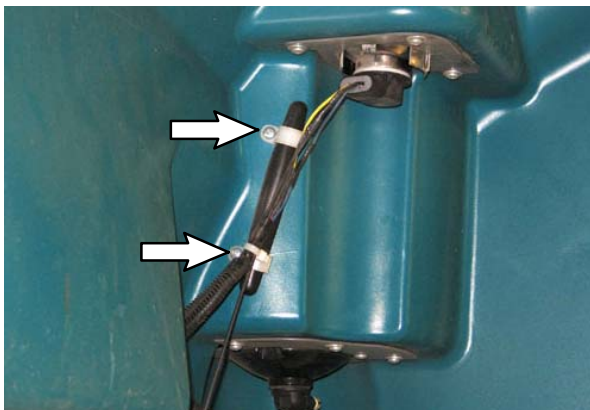
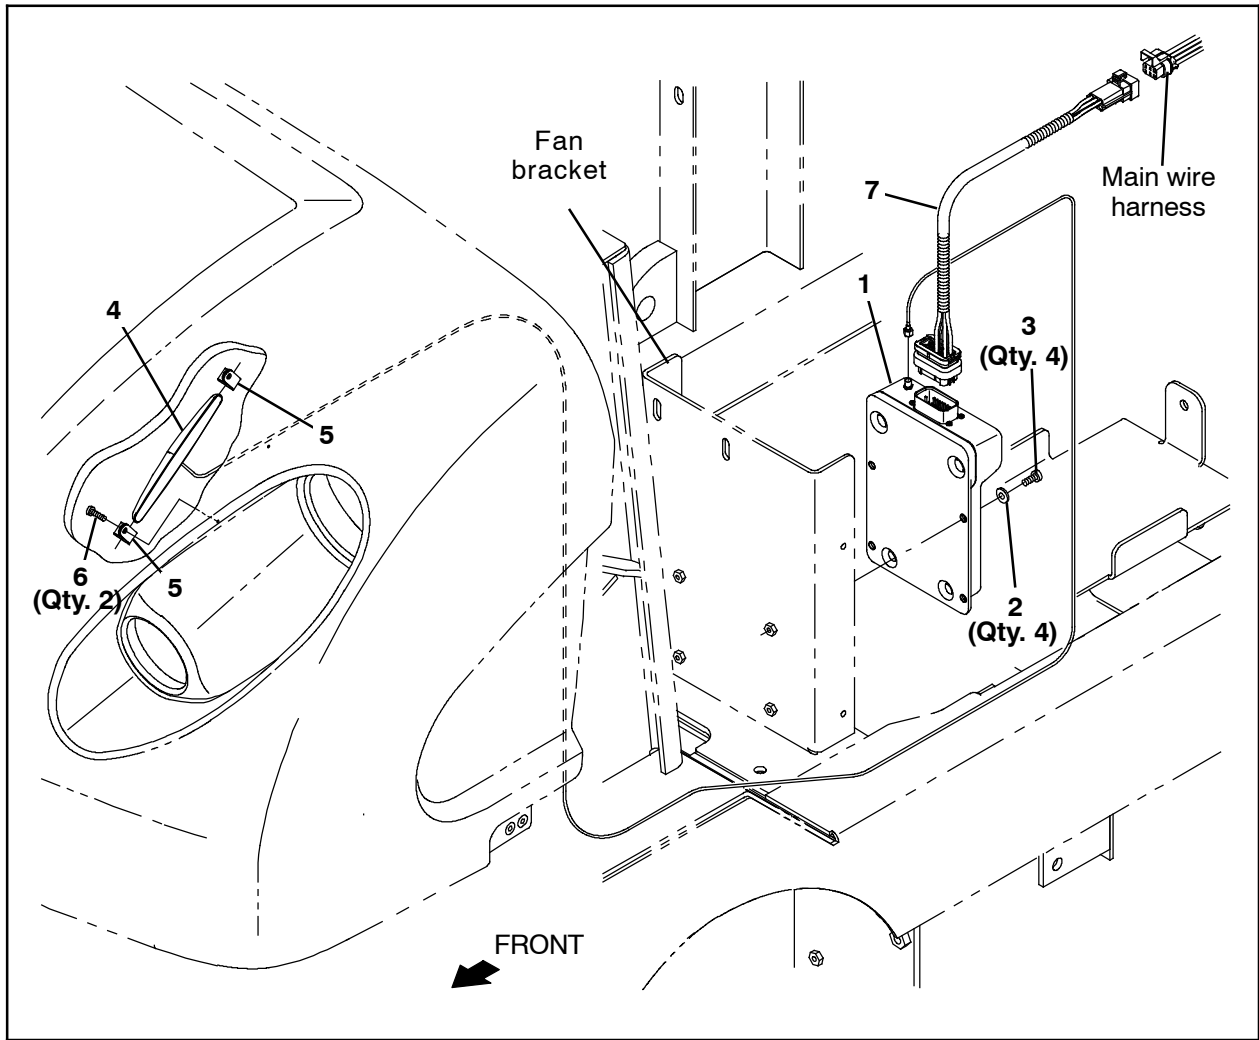
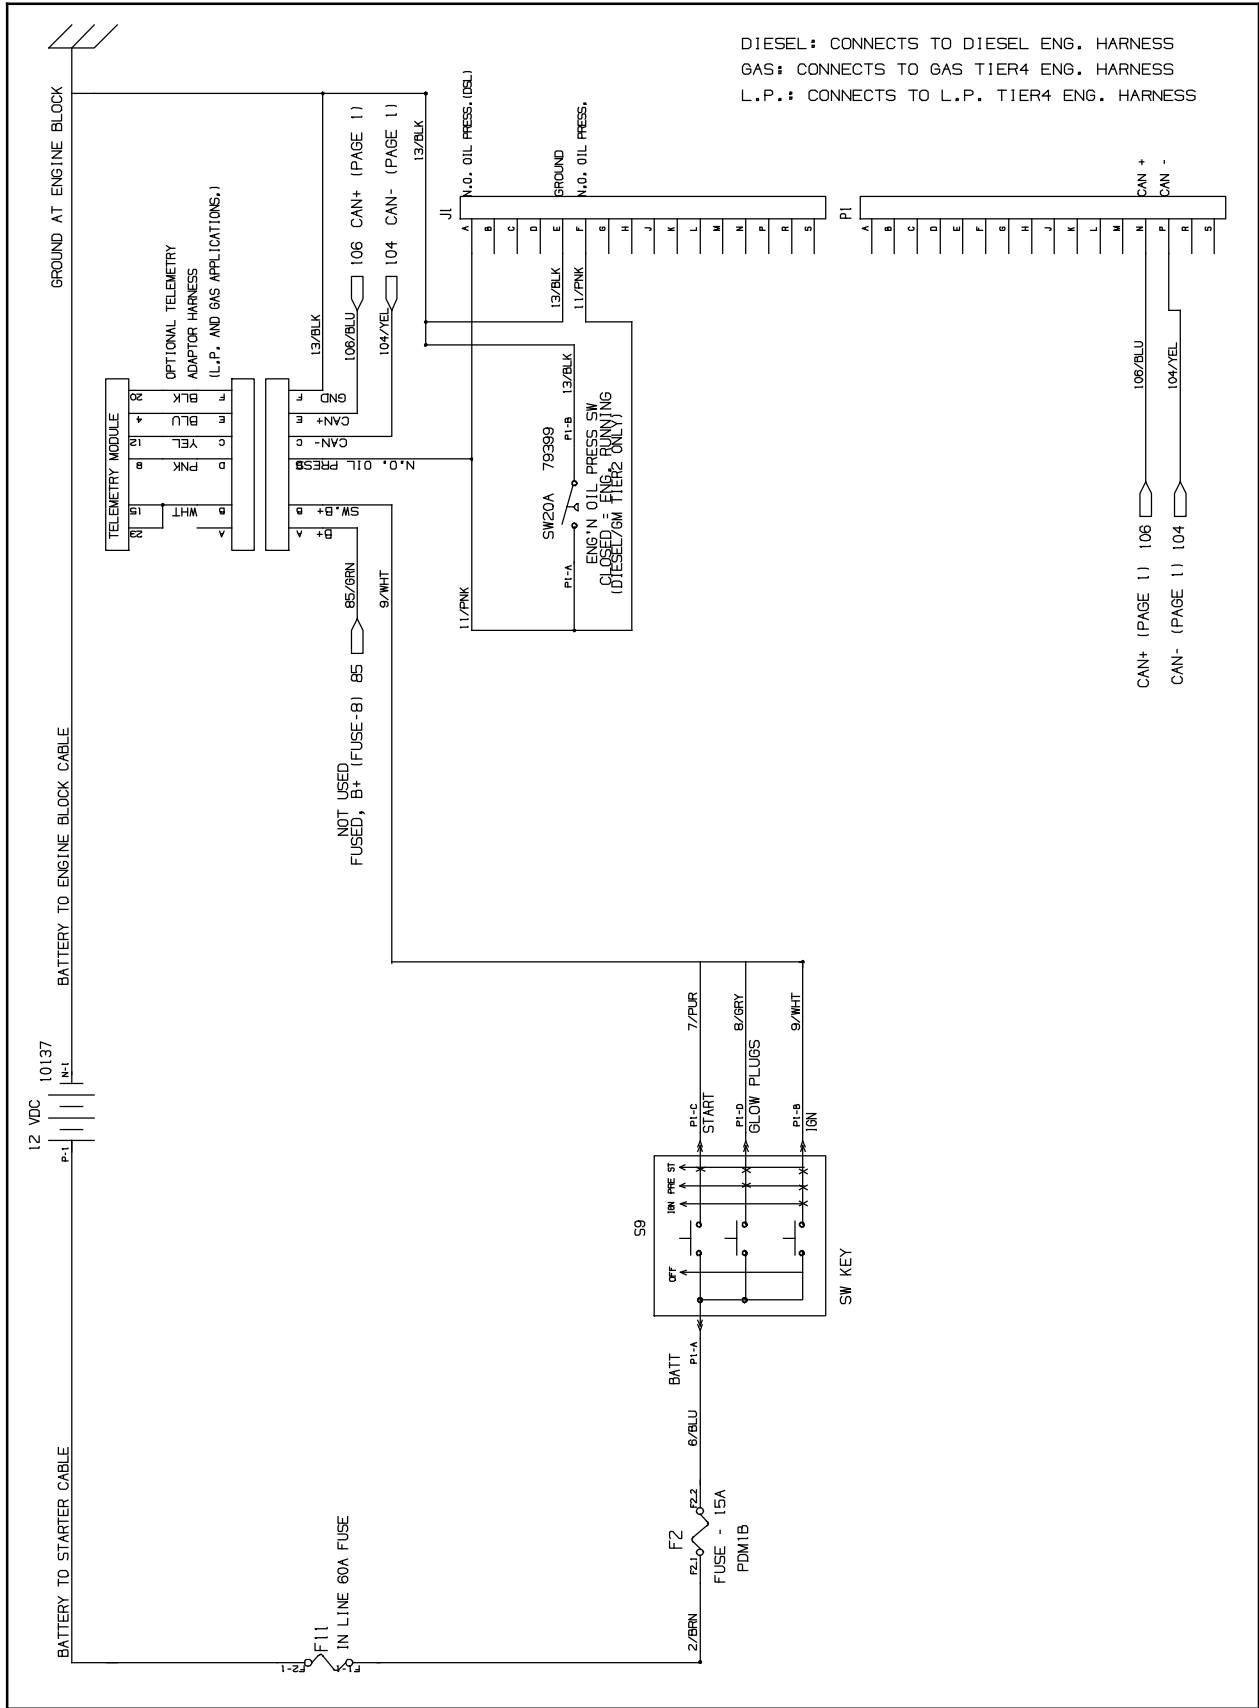

FIG. 3
FIG. 5
FIG. 6
5. Connect the telemetry harness (7) to the telemetry module (1). (Fig. 5)
6. Route the telemetry harness (7) to the control box and connect the telemetry harness to the main harness. (Fig. 5 / Fig. 6)
7. Neatly bundle any excess telemetry harness (7) and use a cable tie (8) to secure the bundled cable.
8. Drill two 3.175 mm holes approximately 76 mm apart for mounting the antenna (4) into the hopper cover near the left headlight. **Do Not** drill into the front surface of the front shroud. (Fig. 3)
9. Use two cable clamps (5) and two pan screws (6) to install the antenna (4) onto the hopper cover. (Fig. 3 / Fig. 5)
10. Route the antenna (4) cable along the existing harnesses and to the telemetry module (1). (Fig. 5)
11. Connect the antenna (4) cable to the telemetry module (1). (Fig. 5).
12. Use cable ties (8) to secure the antenna (4) cable to the existing harnesses.